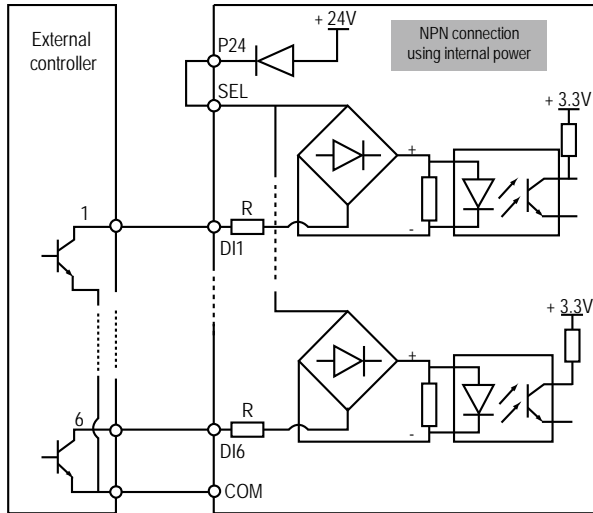

Figure 4-11 NPN signal input connection when using internal 24V power supply
3. If the controller's internal 24V power supply is used, the common emitter output connection of the NPN transistor in the external controller is as shown in Figure 4-11.